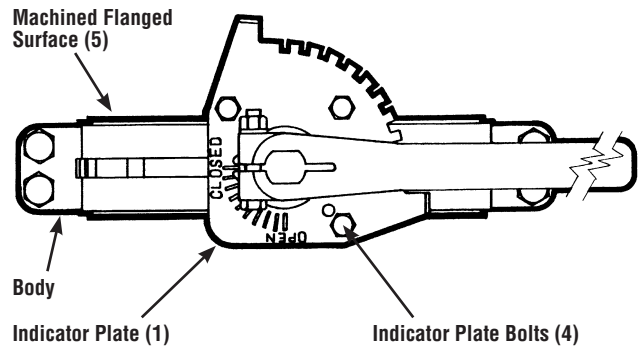

Figure 27
2. Mount the indicator plate (1) to the valve as shown in Figure 27 with the shakeproof washers placed between the indicator plate (1) and the valve body mounting pad. Do not tighten the indicator plate bolts (4) at this time.
3. Place the locking lever (2) on the valve stem as shown in Figure 27. Tighten the pinch bolt (3) on the handle.
4. Position the indicator plate (1) so that the locking lever fits in the “closed” position of the indicator plate (1). Tighten the indicator plate bolts (4).
5. Cycle the valve from closed to open to closed again using the locking lever handle. Recheck to make sure the disc is centered on the seat by measuring the distance from the machined surface on the disc edge to the inner edge of the liner flanged surface (5) on the body. This should be done at two points, at the 3 o’clock and 9 o’clock positions. Both measurements should be equal.
2. Remove the locking lever (2) and indicator plate (1).
3. Mount the indicator plate (1) 180° from the position shown in Figure 27. Do not tighten the indicator plate bolts (4) at this time.